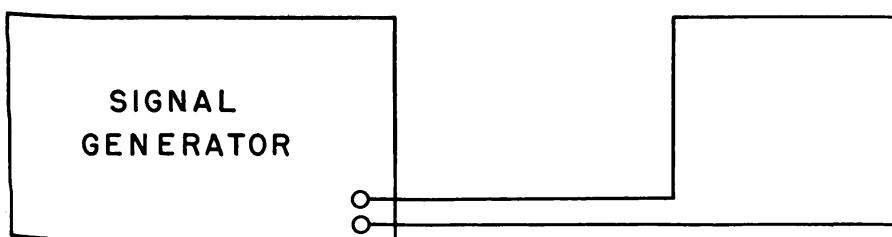

FIGURE 35. Signal generator and loop.
- (a) Feed the signal generator into a single turn loop (fig. 35).
(a) Feed the signal generator into a single turn loop (fig. 35).